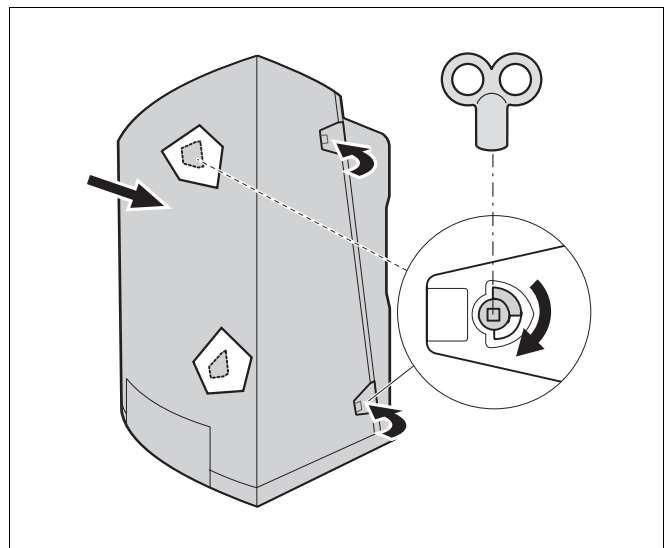

Fig. 41 Installing the casing
- Install the casing and close the latches (fig. 41).